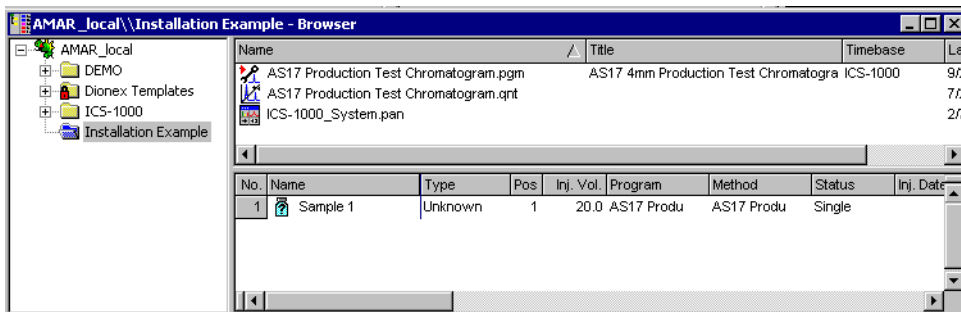

Figure B-32. Example Browser with Open Sequence
18. Click **Next>** and then click **Done** on the last page of the Sequence Wizard. The Browser appears, displaying the sequence you created (see Figure B-32). Notice the three files in the top pane of the Browser window.